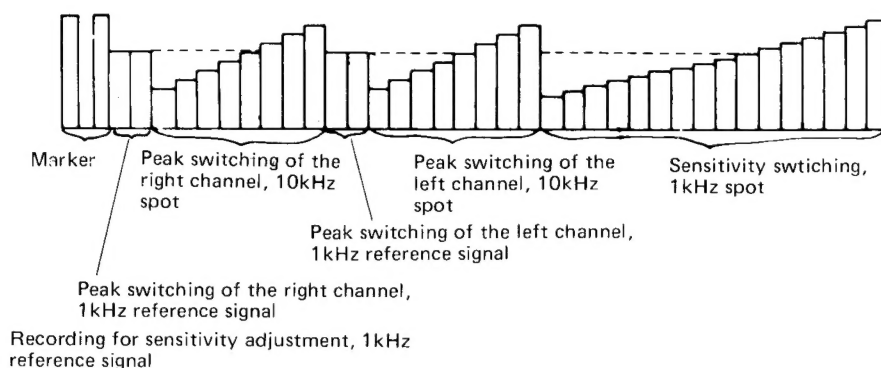

Fig. 5
6. After obtaining the optimum bias in step 5, the green LED (BIAS) lights to show the bias level is set. Then, recording is performed with no signal for 2.5 seconds. Following this, the marker and a 1kHz reference signal are recorded. Then, the 10kHz signal is recorded with the equalization level of the right channel varied from low to high in 16 steps, with each step lasting 60 msec. At the same time, a 1kHz signal is recorded on the left channel. Then, the 10kHz signal is recorded with the equalization level varied from low to high. To adjust tape sensitivity a 1kHz signal is recorded with the recording level varied from low to high in 16 steps, with each step lasting 60 msec. This recording level results in a variation of $\pm 5\text{dB}$. (Fig. 5)